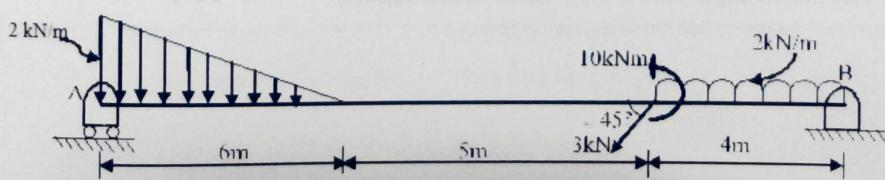

Fig 2.56
- 5) Find the reaction at supports of the Beam AB loaded as shown in the fig 2.56.